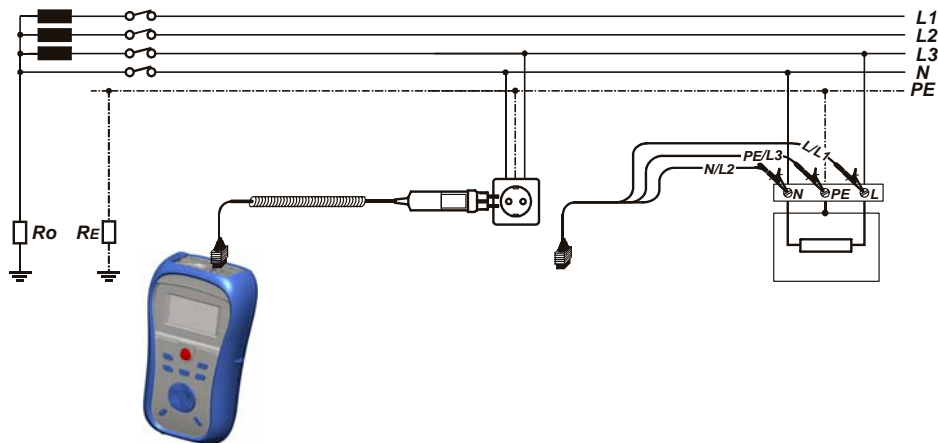

Figure 5.28: Connection of plug cable and universal test cable
- ❑ **Connect** test leads to the the item to be tested (see *figures 5.28 and 5.21*).